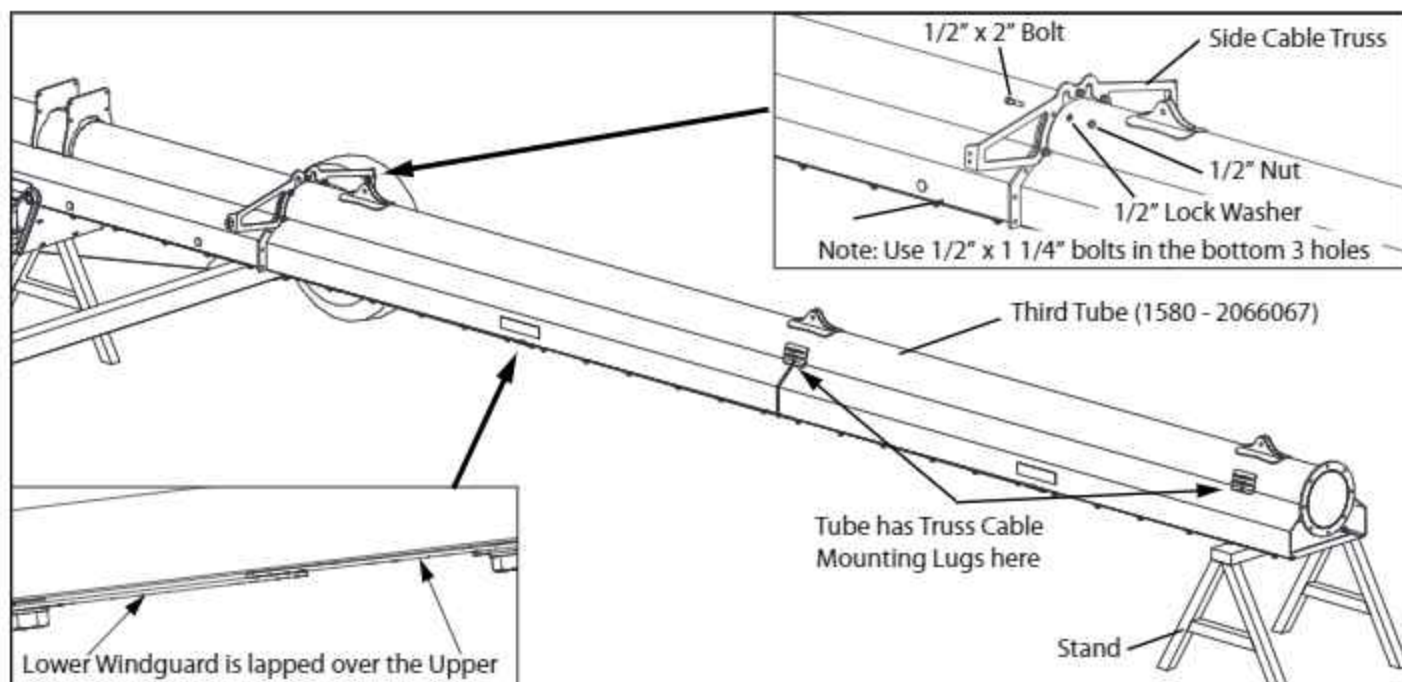

FIG. 3-6. Installing the Third Tube - 1580
4. Place a stand where shown in Fig. 3-6. Bring in the Third Tube Assembly. Make sure it is oriented as shown. Remove any Wind Guard Plates necessary to gain access to the tube flanges.
10. Replace all Wind Guard Plates that were removed. Make sure the plates are lapped properly as shown in Fig. 3-6.